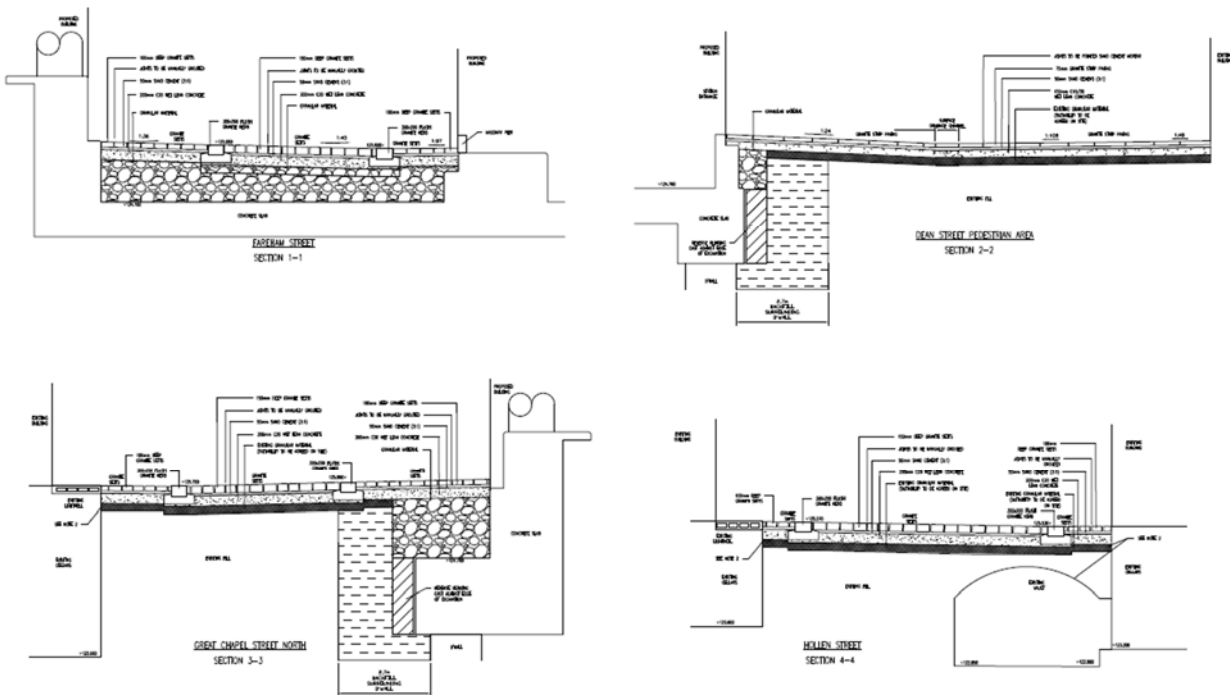

Figure 3-4: Typical Detail Cross Sections, Northwest
4. Kerbs are to be laid on a bed of mortar/concrete. Typical cross sections can be seen below in Figure 3-4, 3-5 & 3-6. Operatives will install a timber shutter and the engineer will mark the level of the concrete to achieve the required fall. A wet lean concrete base course is then to be laid. Following curing, the paving slabs will be installed on a bed of mortar to the required level.